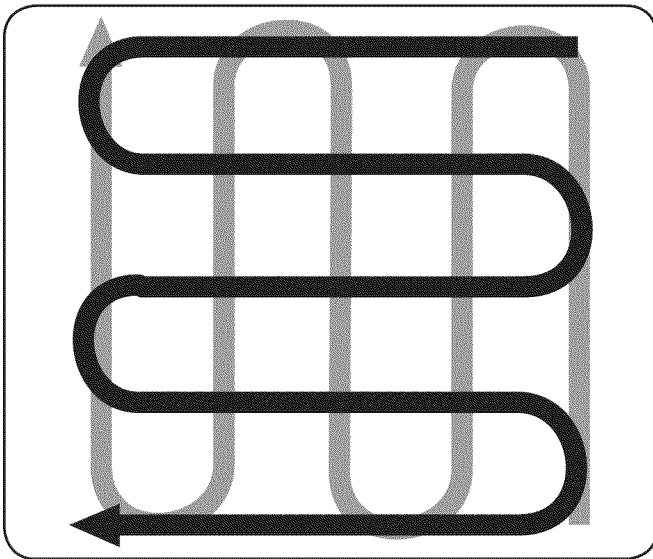

Figure 5-5
- When finished in one direction, make a second pass at a right angle, as shown in Fig. 5-5. Overlap each pass for the best results (in very hard ground, it may take three or four passes to thoroughly pulverize the soil.)